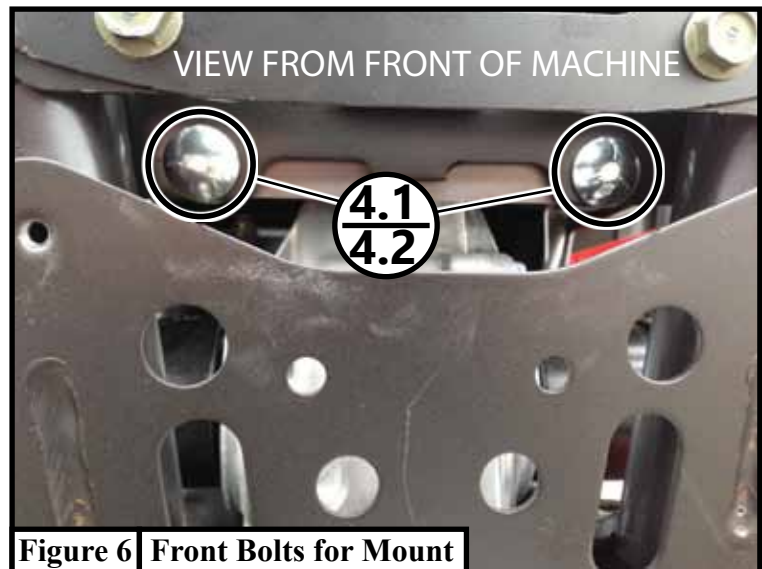

Figure 6 Front Bolts for Mount
6. Attach Rear Tube Bracket (3) to the push tube using Bolts (6.2 & 6.3) and Nuts (6.6). Place bolts (6.2) through washers (6.5) before placing through the push tubes. As shown in **Figure 6**.
6. Fasten the winch mount (1) to the front frame rail using the 3/8" carriage bolts (4.1) and 3/8" nuts (4.2) as shown in **Figure 6** with nuts to the inside so the carriage bolts sit in the square cutout. Some machines may not have the square cutouts to hold a carriage bolt. Use hardware (4.3 and 4.2) in these situations. Use the 3/8" (4.1) carriage bolts and 3/8" nuts (4.2) as shown in **Figure 7** with the bolt head inside the frame channel, for the rear holes.
8. If there is space between the frame and winch mount, refer to page 4 and use the washer and bolts. Depending on where the winch sits (too close on front or back side), you may need to place washers in front or behind the winch mount (1) to move the winch and mount forward or back to provide the clearance needed.